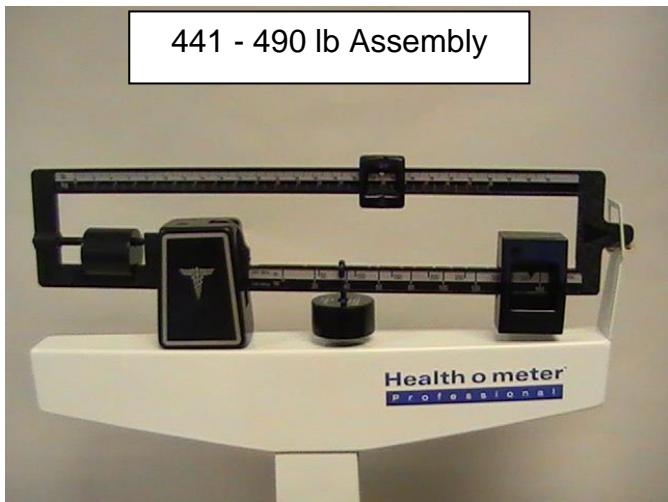

Figure 18
1. When a patient weighs between 441 - 490 lb, place the lower poise weight at 340 lb. (See Figure 18 on page 19)